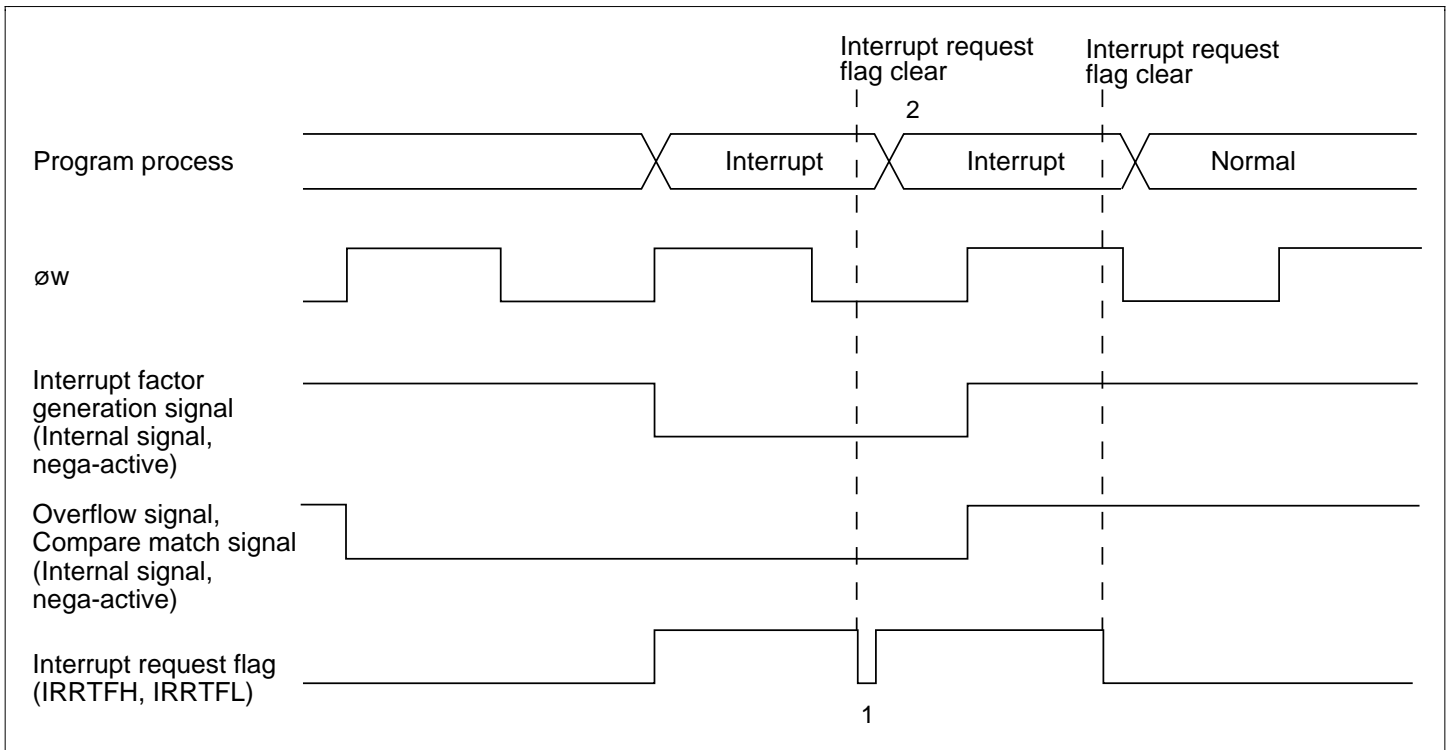

Figure 9-7 Clear Interrupt Request Flag when Interrupt Factor Generation Signal is Valid
When $\phi_w/4$ is selected as the internal clock, “Interrupt factor generation signal” will be operated with ϕ_w and the signal will be outputted with ϕ_w width. And, “Overflow signal” and “Compare match signal” are controlled with 2 cycles of ϕ_w signals. Those signals are outputted with 2 cycles width of ϕ_w (figure 9-7)
In active (high-speed, medium-speed) mode, even if you cleared interrupt request flag during the term of validity of “Interrupt factor generation signal”, same interrupt request flag is set. (figure 9-7 1) And, you cannot be cleared timer overflow flag and compare match flag during the term of validity of “Overflow signal” and “Compare match signal”.
For interrupt request flag is set right after interrupt request is cleared, interrupt process to one time timer FH, timer FL interrupt might be repeated. (figure 9-7 2) Therefore, to definitely clear interrupt request flag in active (high-speed, medium-speed) mode, clear should be processed after the time that calculated with below (1) formula. And, to definitely clear timer overflow flag and compare match flag, clear should be processed after read timer control status register F (TCSRFB) after the time that calculated with below (1) formula. For ST of (1) formula, please substitute the longest number of execution states in used instruction. (10 states of RTE instruction when MULXU, DIVXU instruction is not used, 14 states when MULXU, DIVXU instruction is used) In subactive mode, there are not limitation for interrupt request flag, timer overflow flag, and compare match flag clear.